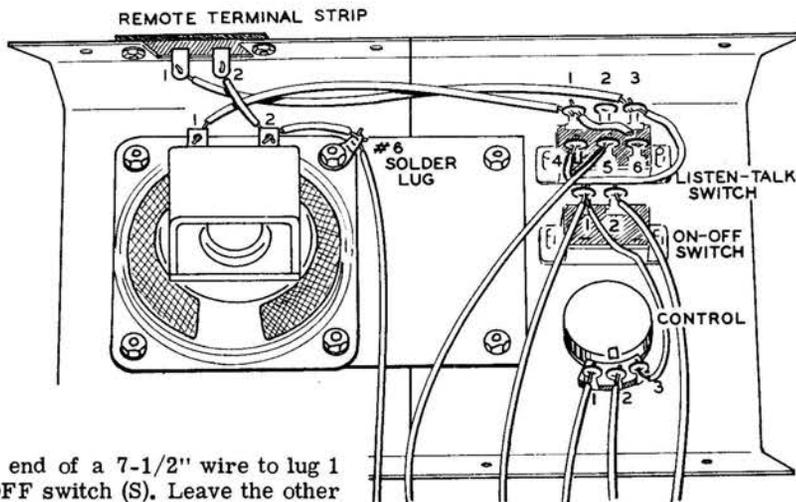

Figure 10H
- Refer to Figure 10H for the following steps. Route each of the following hookup wires as shown.
- () Remove the volume control knob from the shaft and remove the 100 K Ω volume control from the front panel. Save the hardware. Install the 5000 Ω volume control and position it as the 100 K Ω control was. See Figure 10H. Reinstall the volume control knob.
- () Connect a 6" wire from lug 1 of the remote terminal strip (S) to lug 3 of the LISTEN-TALK switch (NS).
- () Connect a 2-3/4" wire from lug 3 (S) to lug 4 (S) of the LISTEN-TALK switch.
- () Connect a 1" wire from lug 6 (S) to lug 1 (NS) of the LISTEN-TALK switch. Bend the lugs of this switch outward slightly, if necessary, to keep this wire from touching other wires or lugs.
- () Connect a 5" wire from lug 1 of the LISTEN-TALK switch (S) to lug 1 of the speaker (S).
- () Connect a 1" wire from lug 2 of the remote terminal strip (S) to lug 2 of the speaker (NS).
- () Connect a 1-1/2" wire from lug 2 of the speaker (S) to the #6 solder lug (NS).
- () Connect one end of a 6-1/2" wire to the solder lug (S). Leave the other end free.
- () Connect a 2-1/2" wire from lug 3 of the VOLUME control (S) to lug 1 of the ON-OFF switch (NS).